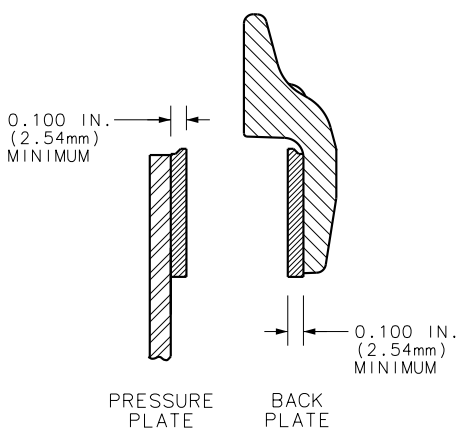

Figure A1
The minimum replacement thickness on metallic and organic linings is 0.100 inch (2.54 mm) except as noted below. Refer to Figure A1.
- First, measure linings as shown in Figure A1. Linings worn below .100 inch are cause for replacement.